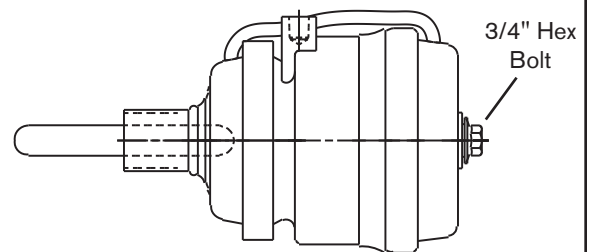

Figure 6b Two-Port Actuator
- 2b. Using a 3/4 inch socket, turn the tap bolt counterclockwise to fully cage (compress) the spring. The spring is fully compressed when the bolt is backed out of the unit 21 mm [0.83 inches]. (Refer to Figure 6b).